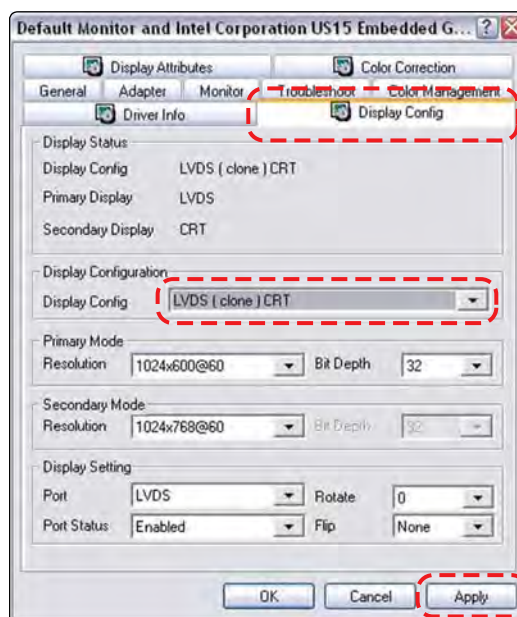

Figure 14-4 Sample Display Config tab
4. From the Display Config tab, select LVDS (clone) CRT from the Display Configuration dropdown menu (Figure 14-4).